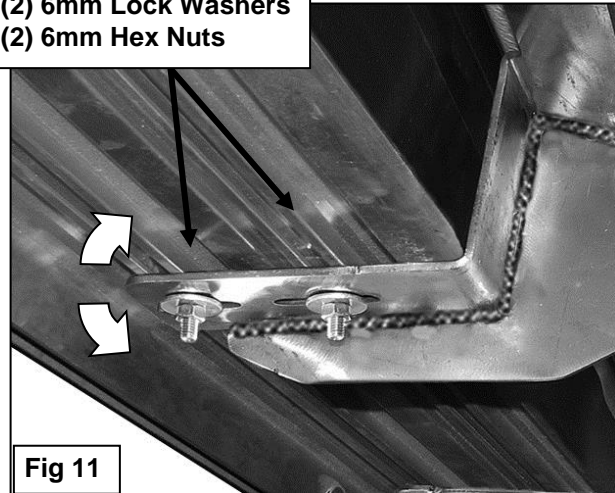

Fig 11
6. Carefully unwrap the passenger side Running Board. From the front, slide (3) T-Bolts into each channel in the bottom of the Running Board, **(Figure 10)**. Slide the T-Bolts forward or back to line up with the slots in the (3) previously installed Mounting Brackets. Hold the Running Board up to the vehicle at a slight angle and gently push it into position against the rocker panel. Loosen Brackets if necessary. Insert the T-Bolts through the slots in the Brackets, **(Figure 11)**.
7. Attach the Running Board to the Mounting Brackets with the included (6) 6mm Flat Washers, (6) 6mm Lock Washers and (6) 6mm Hex Nuts, **(Figure 11)**. Leave hardware loose at this time.
- b. Next, check for level to the ground, side to side only. If the outside edge of the running board is tilted down, tighten the long 10mm x 50mm Hex Bolts on the back of the (3) Mounting Brackets evenly until the Running Board is level, **(Figures 11 & 12)**. If the Running Board is tilted up, loosen the Hex Bolt in the Support Plate a little until the Running Board is level. Once level, tighten all hardware.